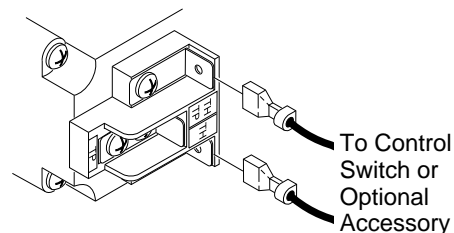

Figure 36 - Control Valve Terminals
1. Connect one terminal of 25 ft. wire for the wall switch to the TPTH terminal on the valve. Connect remaining wire terminal to the TH terminal on the valve. Make sure that the wire terminals are in the positions on the unit as pictured in Figure 36. If wires are not connected as shown, the switch will not work.
3. Connect one terminal of the wire for the wall thermostat to the THTP terminal on the valve. Connect remaining wire terminal to the TH terminal on the valve. Make sure that the wire terminals are in the positions on the unit as pictured in Figure 36. If wires are not connected as shown the thermostat will not work.
2. Disconnect wires from THTP and TH on control valve that lead to the switch (see Figure 36, page 15). Discard switch plate, screws, and nuts.
6. Connect the wires from the receiver to the valve at TH and THTP (see Figure 36, page 15).